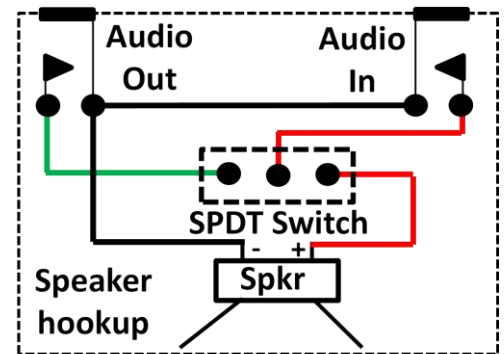

Fig. 8
- 2 – Using **Figure 8**, wire the **switch, speaker, and two RCA jacks**. See figure 7B for part orientation. When viewing the **“Speaker Cavity”** from the bottom the **Left RCA Jack** is the **“Audio In”**, and with the **Switch Lever** oriented to the right, will be the CW Speakers **“On”** position. The other switch direction will be the **“Bypass”** position.